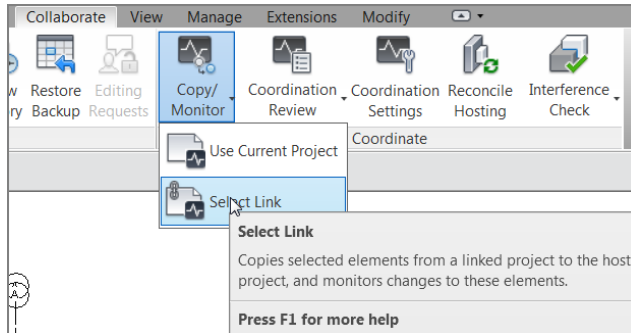

FIGURE 20.4: The Copy/Monitor button on the Coordinate panel of the Collaborate tab
2. On the Coordinate panel of the Collaborate tab, select Copy/Monitor ➤ Select Link, as shown in Figure 20.4.